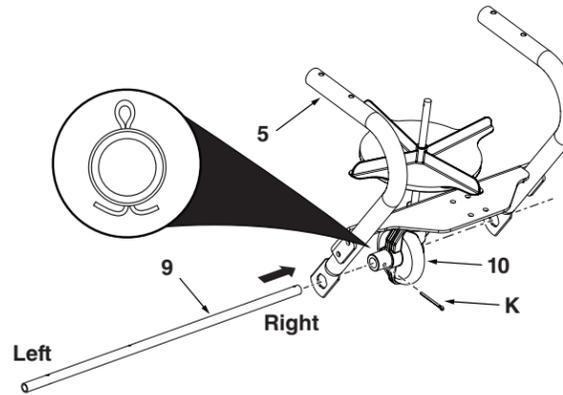

Figure 4
STEP 4: (SEE FIGURE 4)
- NOTE: Make sure to insert the axle as shown below. The right side has a hole at the very end, and the left side has a hole further away from the end. Attach the gearbox (10) to the axle (9) by inserting the axle through the frame (5) and gearbox and through the other side of the frame. Secure with a 1-1/2" cotter pin (K) by bending the ends out.